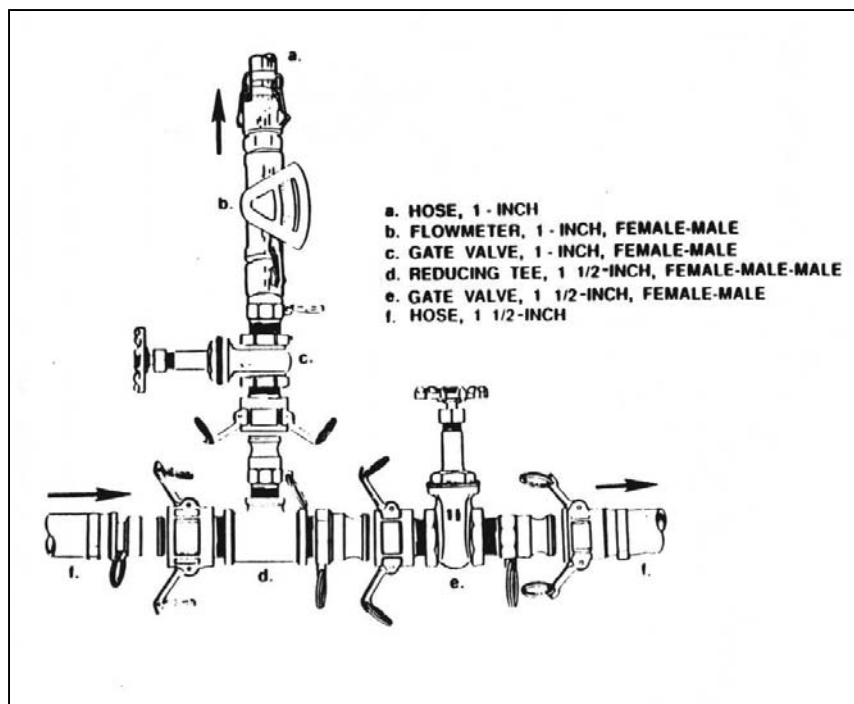
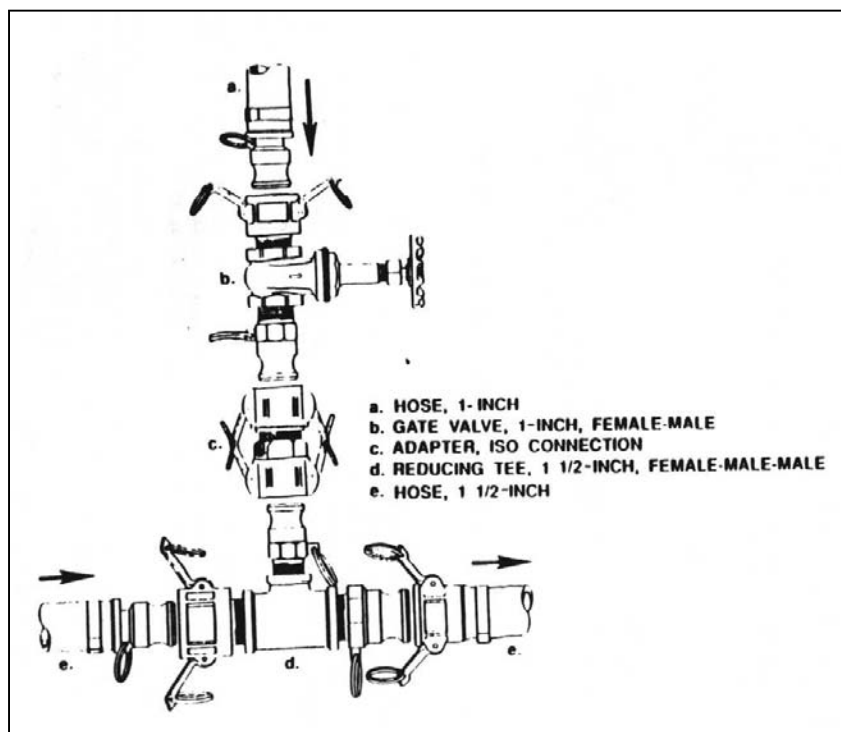

Figure 1-4
Figure 1-5
h. Lay the fittings and hose for the secondary loop(s). The beginning of each secondary loop is configured like that shown in Figure 1-4. The 1-inch gate valve here (item c) and at the end of the loop (item b, figure 1-5) allow you to shut off the water supply to the secondary loop without disrupting the water supply to the rest of the system. Always leave this valve open unless you are working on the secondary loop. To force water into the secondary loop, gradually close the 1 ½ inch valve (item e) until the flow meter (item b) shows the flow between 5 and 10.
i. The return side of each secondary loop is configured like that shown in Figure 1-5. The gate valve (item b) is used with the 1-inch valve discussed in paragraph h, above. The female-female adapter (item c) is used to connect the male fitting on the secondary loop to the one on the reducing tee (item d) in the primary loop.